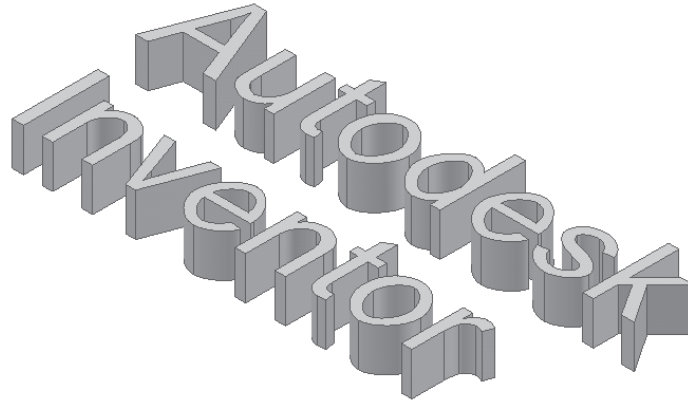

Figure 3-68 Feature created by extruding the text
5. Set the extrusion depth in the **Depth** edit box to **2.5** and choose **OK**. The text is extruded to a distance of 2.5 mm as shown in Figure 3-68.
The distance of the feature from the shadow depends on the current zoom factor. As a result, the distance of shadow in your drawing may be different than that shown in Figure 3-68.